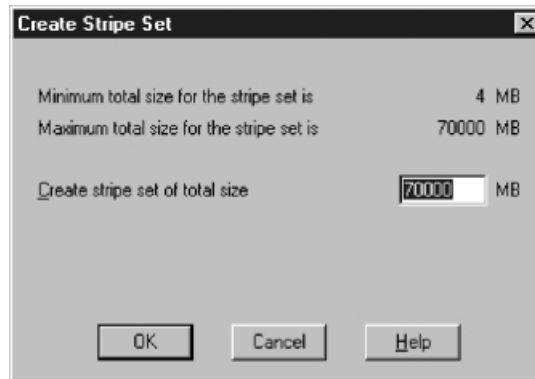

Fig. 6 Create Stripe Set dialog box
2. When “Create stripe set” is clicked on the [Partition] menu, the “Create Stripe Set” dialog box shown in Fig. 6 appears. Click [OK].